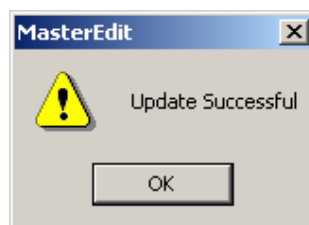

Figure B-18: MasterEdit Update Successful Message
12. When the new data is entered, click **OK**. If successful, the following message will appear (Figure B-18).